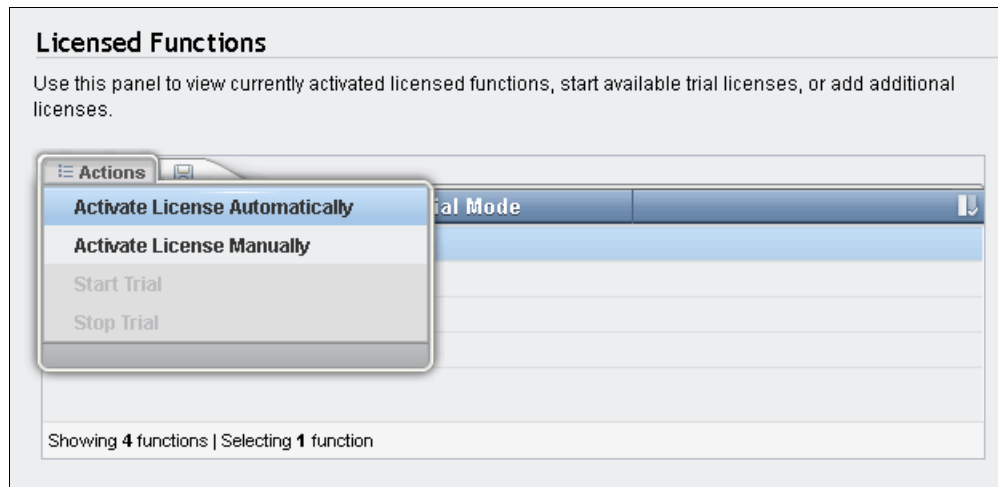

Figure 9-5 Easy Tier activation mode
2. Select **Easy Tier** → **Actions** and choose **Active License Automatically** or **Activate License Manually**, as shown in Figure 9-5.